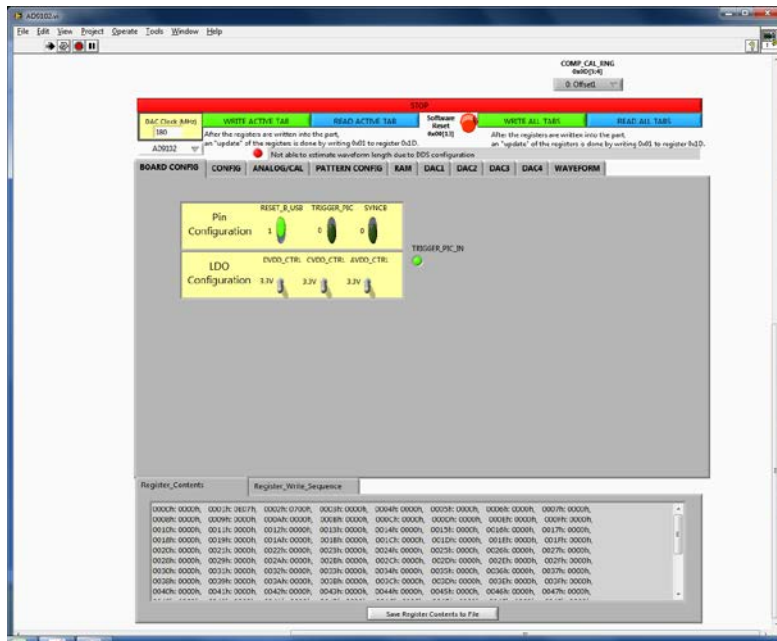
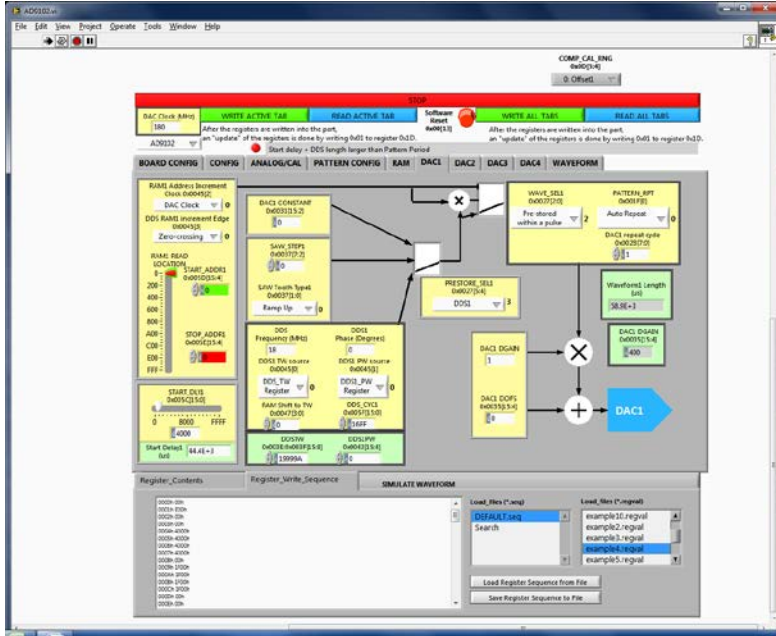

Figure 1: AD9102 evaluation software Control Panel GUI, Board Configuration Tab
Figure 2: AD9102 evaluation software Control Panel GUI, DAC1 Tab and Register_Write_Sequence Tab
The AD9102 Evaluation Board GUI software (Figure 1 and Figure 2) has a number of tabs. Each tab allows the user to view or manually program a subset of AD9102 registers and on-chip data RAM. The RAM tab lets the user download vectors to the RAM. The AD9102 evaluation board CD includes RAM vectors for use with example files described below where appropriate. The DAC1 tab works with the AD9102 DAC. The DAC2, DAC3 and DAC4 tabs are not used with this product. The DAC tab depicts the waveform generation signal chain for the AD9102 DAC. The Register Write Sequence tab is used to select and write register configuration files to the AD9102. Further details on the evaluation software can be found in AD9102 Evaluation System Notes below.
- f. Highlight the Default.seq file and example1.regval file – see Figure 2
- f. Highlight the Default.seq file and example2.regval file – see Figure 2
- Highlight the Default.seq file and example3.regval file – see Figure 2
- Highlight the Default.seq file and example4.regval file – see Figure 2
- f. Highlight the Default.seq file and example5.regval file – see Figure 2
- b. Highlight the Default.seq file and example6.regval file – see Figure 2